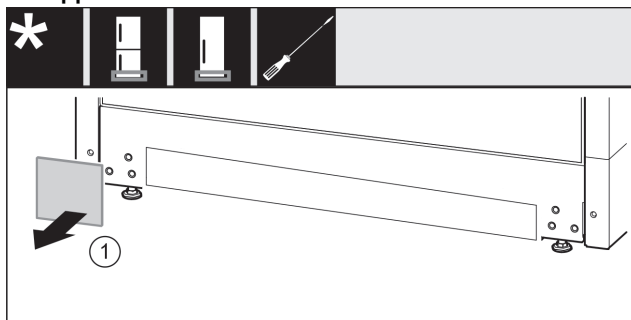

Fig. 12
- Remove the cover. Fig. 12 (1)